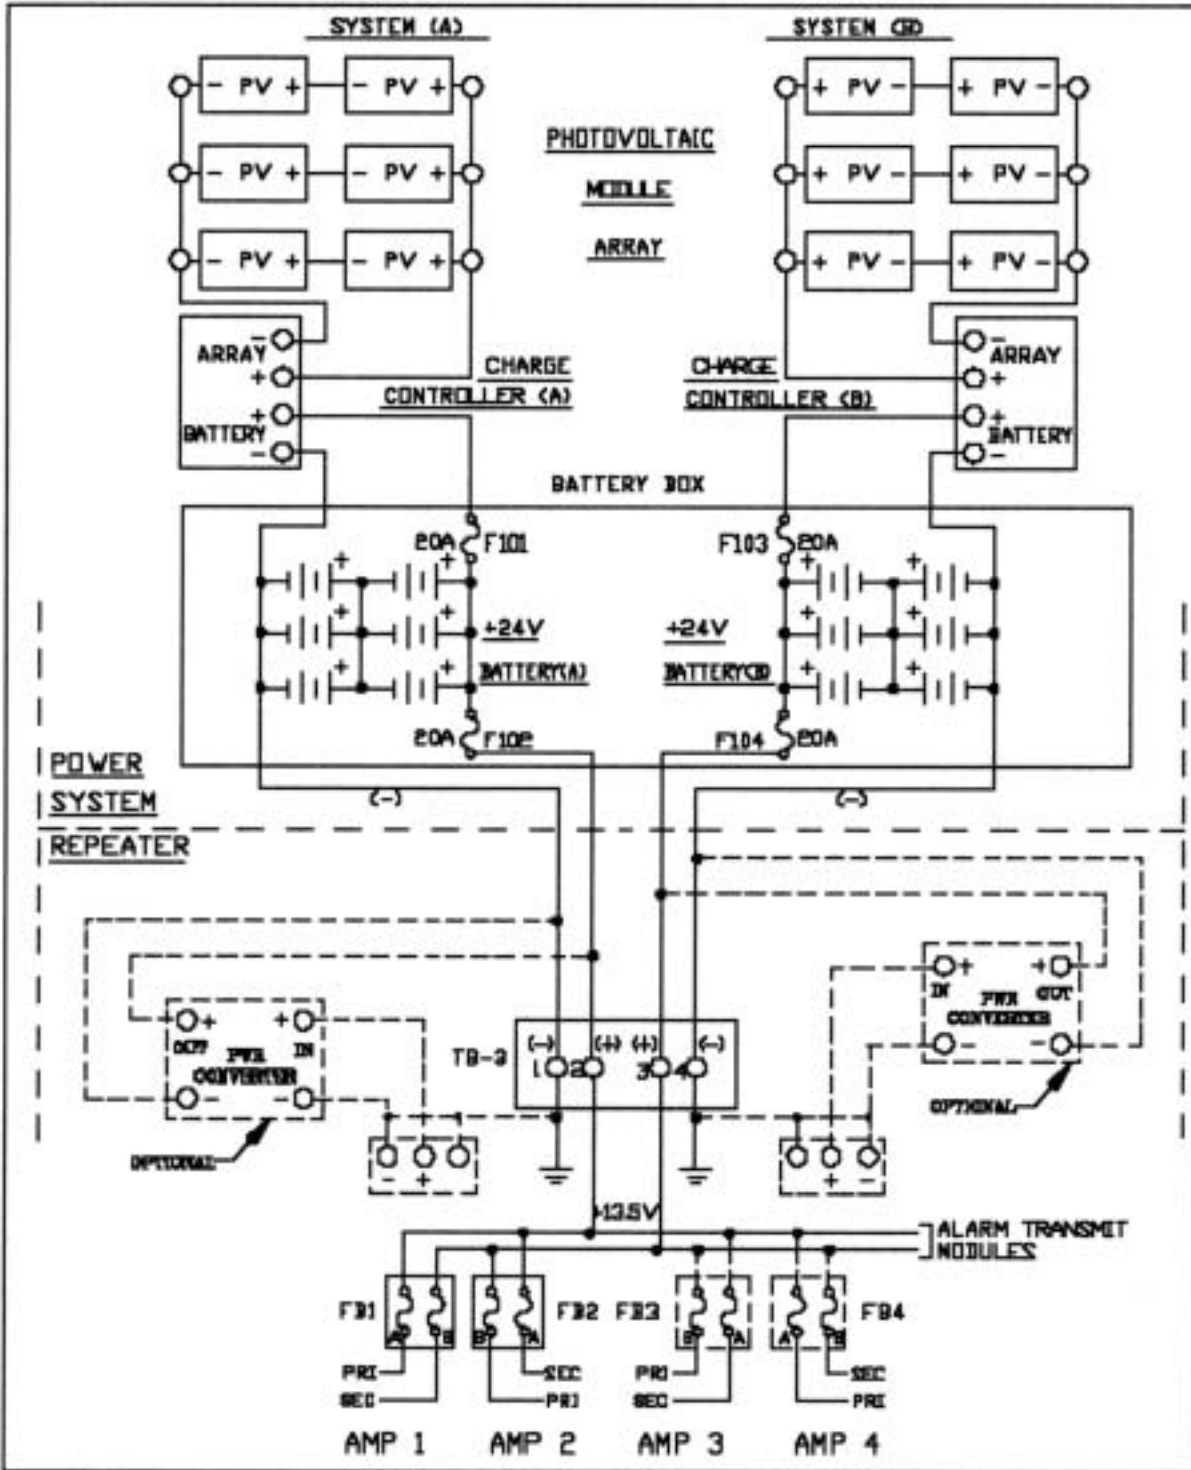

Figure 1.7 Power Connection Block Diagram
fittings provided. Use paired 10-gauge (2.50 mm) wire from both batteries to the Repeater terminal blocks, and from the solar panels to the charge controller terminal block. Connect the negative leads from the negative battery terminals to 1 and 4 of terminal block TB-3 (see Figure 1.7). Then connect the positive leads from the positive battery terminals to 2 and 3 of terminal block TB-3. If a single AC/DC converter is used, jumpers must be installed between terminals 2 and 3 on the lower side of TB-3 (see Figures 1.1 and 1.2). Note that the equipment uses a negative ground.
NOTE: TB-2 and TB-3 are reserved for the case when the main power supply is other than 12Vdc. Any power converter must be used according to Figure 1.7. See Section 4.3, Application of Power.
- The Repeater is normally powered from redundant dual DC power systems—designated systems A and B. The A battery is wired to power the A side of the equipment. Similarly, the B battery is wired to power the B side of the equipment. Standby power switchover is accomplished within each amplifier. Each amplifier has a primary and secondary +13.5 Vdc input. If the primary DC power system should fail, operation will immediately continue on the secondary DC power system (see Figure 1.7).
- 4 Set the DVM (digital voltmeter) to read in a range of 5A or greater and put its test leads in series between positive lead from battery system A and terminal 1 (+) of TB-3 on the Repeater (see Figure 1.7). Alternatively, use leads on fuse holders of F102 and F104. Once the current stabilizes (this will take approximately 30 seconds), it should be within the limits shown in Table 4.B.